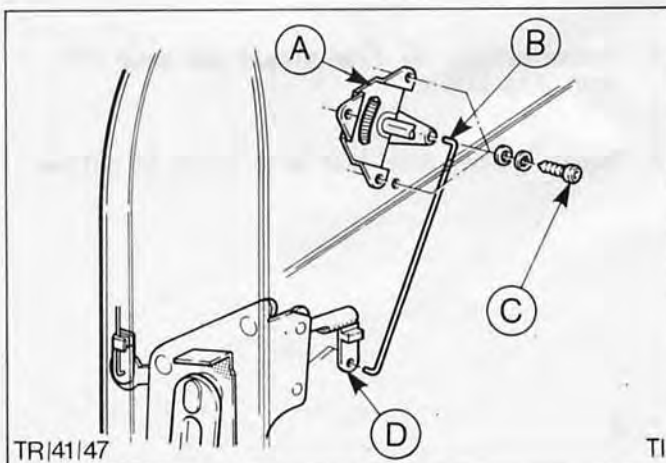

Fig.122. Side door remote control.
15. Position remote control, put in screws, clip in linkage on lock and tighten screws, Fig.122.